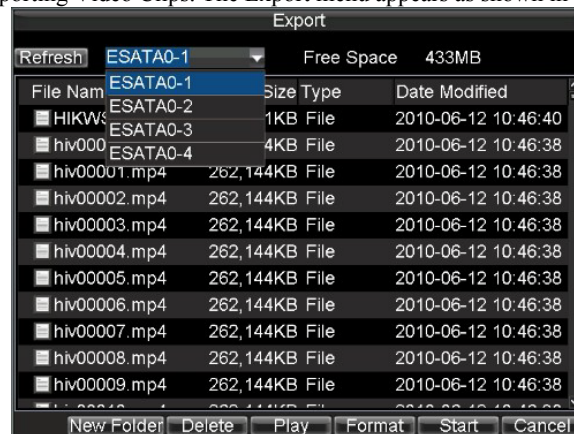

Figure 10. Files Export Interface
3. You may go to recorded files export interface following the above explanation in section Exporting Files or Exporting Video Clips. The Export menu appears as shown in Figure 10.